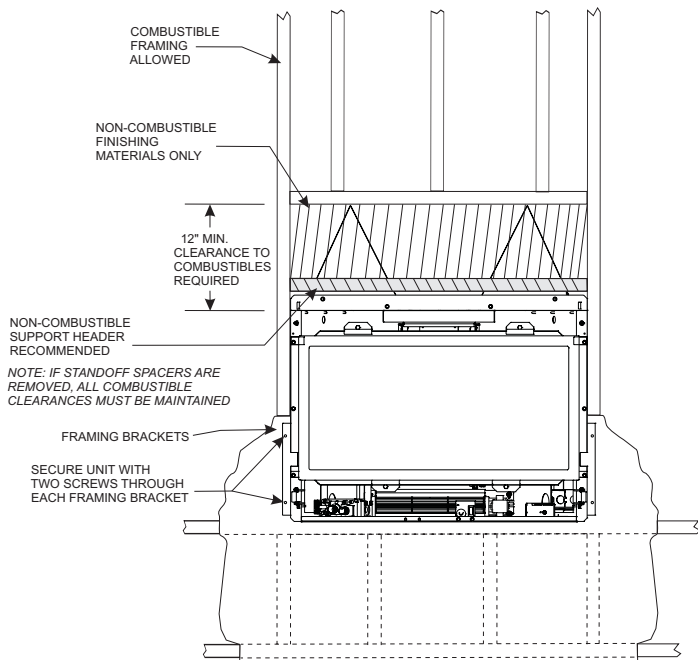

Figure 5
The non-combustible support header recommended in Figure 5 could be a metal stud that is tied in horizontally above the unit. This optional header may take the place of the two top standoff spacers. If the standoff spacers are not used, the combustible above the fireplace must still remain at the minimum combustible clearance opening heights as indicated by Figure 2, page 7.
5. Secure unit to wall opening with common screw type fasteners. See Figures 5 and 9.